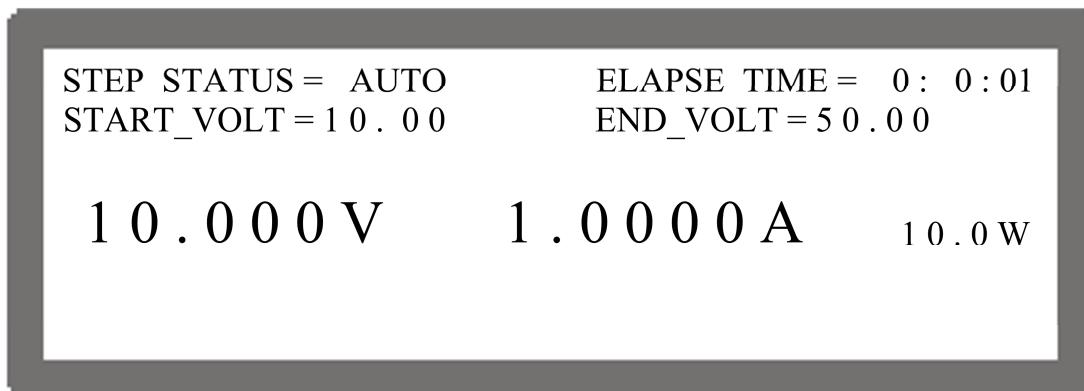

Figure 4-23
2. Press “**OUTPUT**” again to confirm the execution. The screen will go to MAIN PAGE during execution as shown in Figure 4-23. To stop the execution, press “**EXIT**” and return to the MAIN PAGE window in standby.